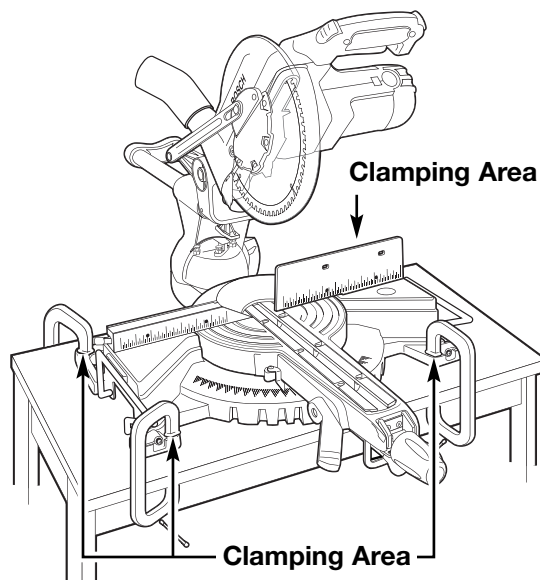

Figure 17. Portable Mounting Using Clamps
- Place a “C” clamp on each of the clamping areas and secure (Figure 17).